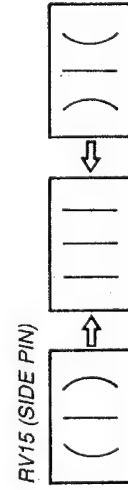

Fig. 29-10.
2. Adjust SIDE PIN by turning DA board RV31 as shown in Fig. 29-10.